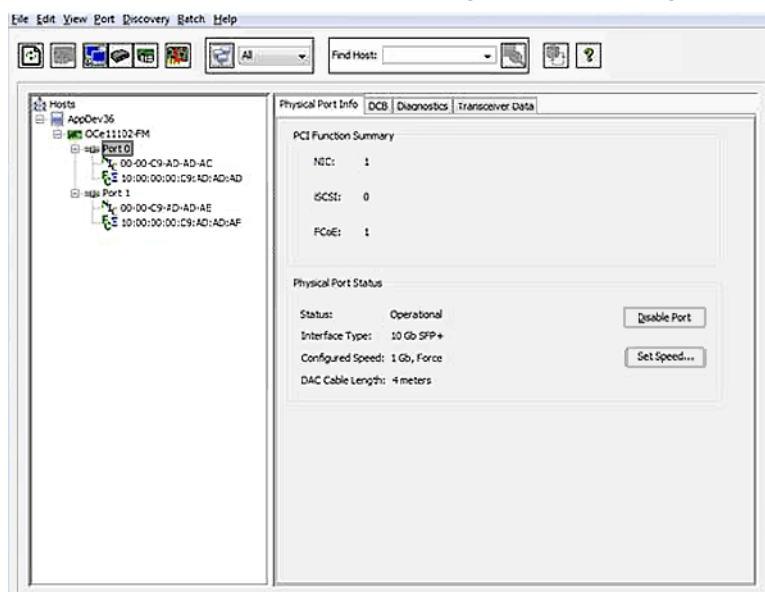

Figure 7-15 Physical Port Info Tab (OCe11102 Adapter Port Selected)
The Physical Port Info tab (Figure 7-15 on page 85) contains a general summarization of the PCI functions under that physical port and the current physical port status.
The Physical Port Info tab (Figure 7-15 on page 85) also allows you to enable or disable the physical port. See “Configuring iSCSI Initiator Login Options” on page 198 for more information.
3. Select the **Physical Port Info** tab (Figure 7-15 on page 85).
Using the Physical Port Info tab (Figure 7-15 on page 85) you can enable or disable the physical port. If you disable a physical port, you disable all functions, such as iSCSI and NIC, for the port. Disabled ports appear in the discovery-tree as a black port icon.
2. Select the **Physical Port Info** tab (Figure 7-15 on page 85).
2. Click **Set Speed** on the Physical Port Info tab (Figure 7-15 on page 85). The Change Port Speed dialog box appears (Figure 7-16 on page 86).